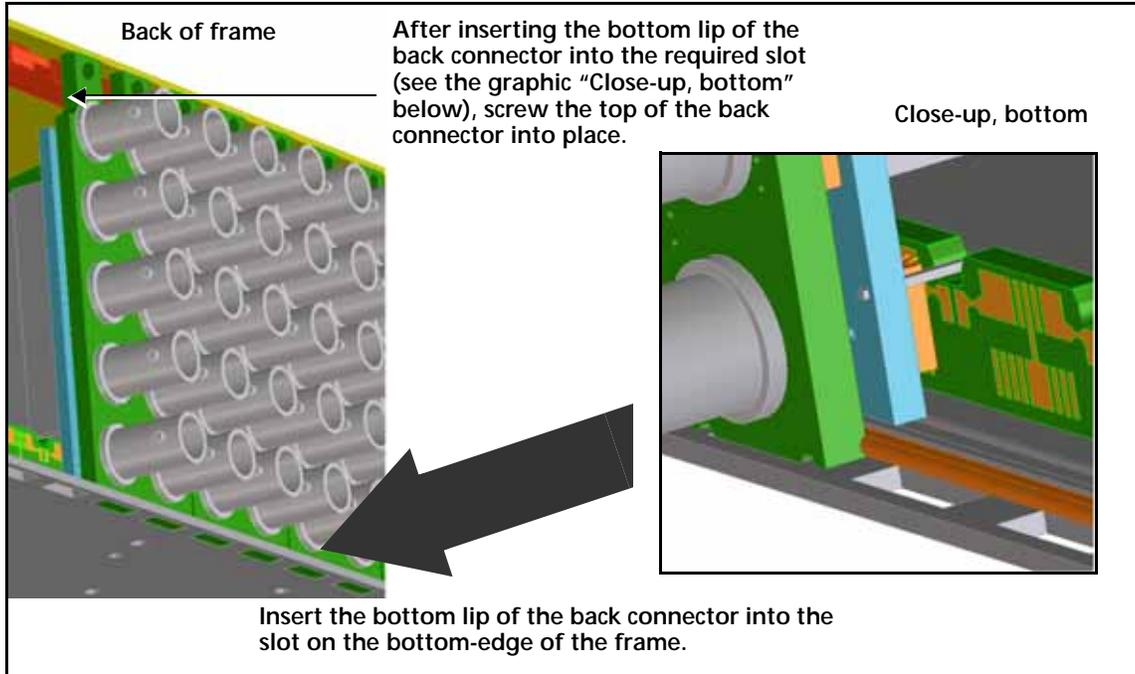

Figure 2-8 Installation of Back Connectors, Rear View
- 3 Install the new back connector by inserting the bottom lip into the required frame slot and then screwing it into place. See Figure 2-8 on page 18.